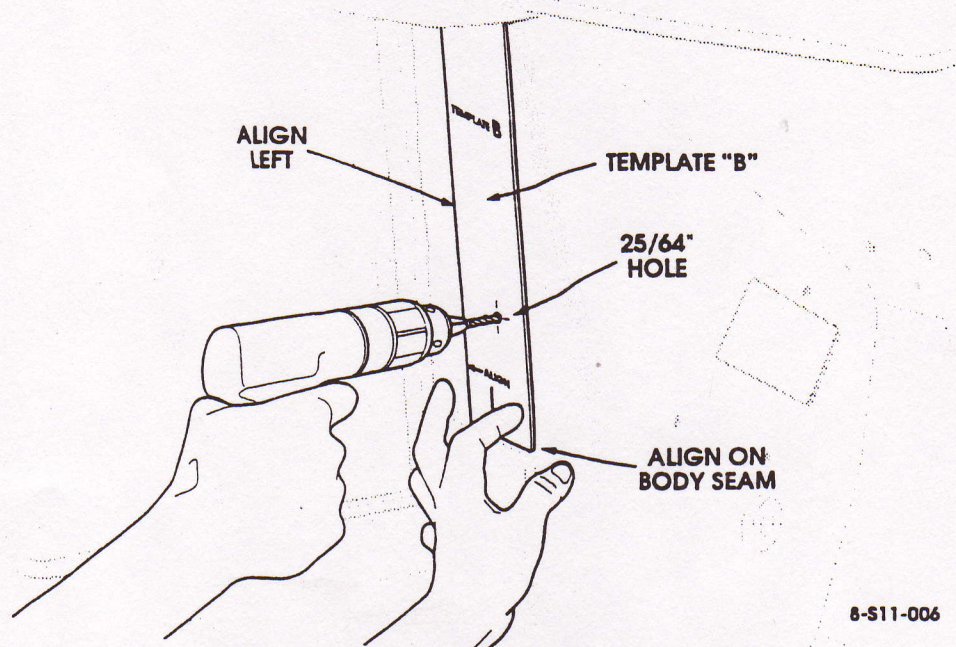

Figure 2: Left Side Mount Bracket Template "B".
21. Using template "B", locate the mounting hole for the left side main HVAC mount. Align the bottom of the template flush with the seam in the body (See Figure 2). Drill the hole using a $25/64$ " drill bit and install a $1/4$ -20 nut insert.